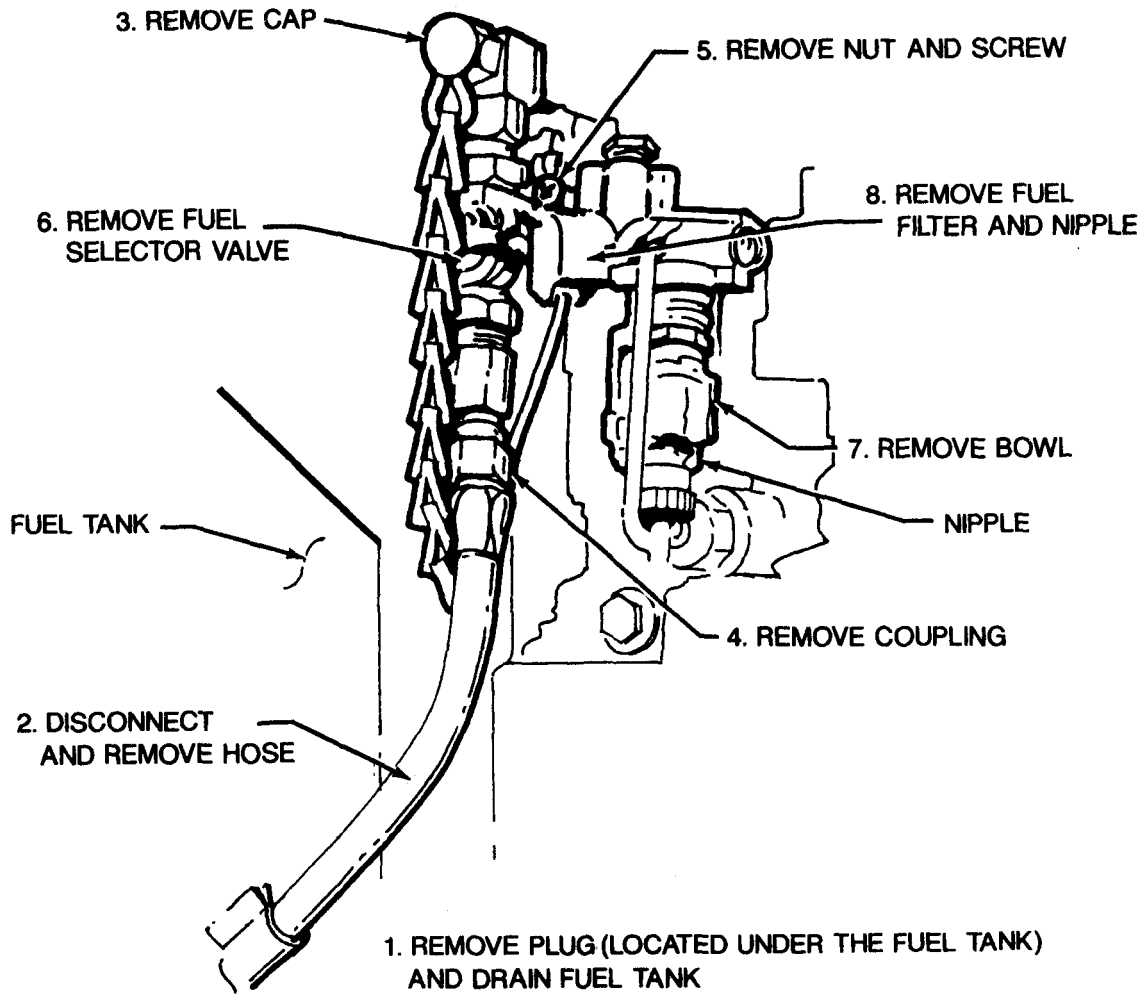

Figure 4-11. Fuel selector valve, fuel filter, and hose, removal and installation.
a. *Removal.* Refer to figure 4-11 and remove the fuel selector valve, fuel filter and hose.
(1) Thoroughly clean and dry all parts.
(2) Inspect the hose for cracks and for a frayed cover. Inspect the fittings on the ends for cracks and damaged threads.
(3) Inspect the fuel selector valve for cracks, distortion, damaged threads, and other damage.
(4) Inspect the fuel filter for cracks and damaged threads. Inspect the bowl for chipped areas, especially at the top seating surface. Inspect for cracks in the side of the bowl. Inspect the bowl for distortion.
(5) Replace all damaged or defective parts.
c. *Installation.* Refer to figure 4-11 and install fuel selector valve, fuel filter, and hose.